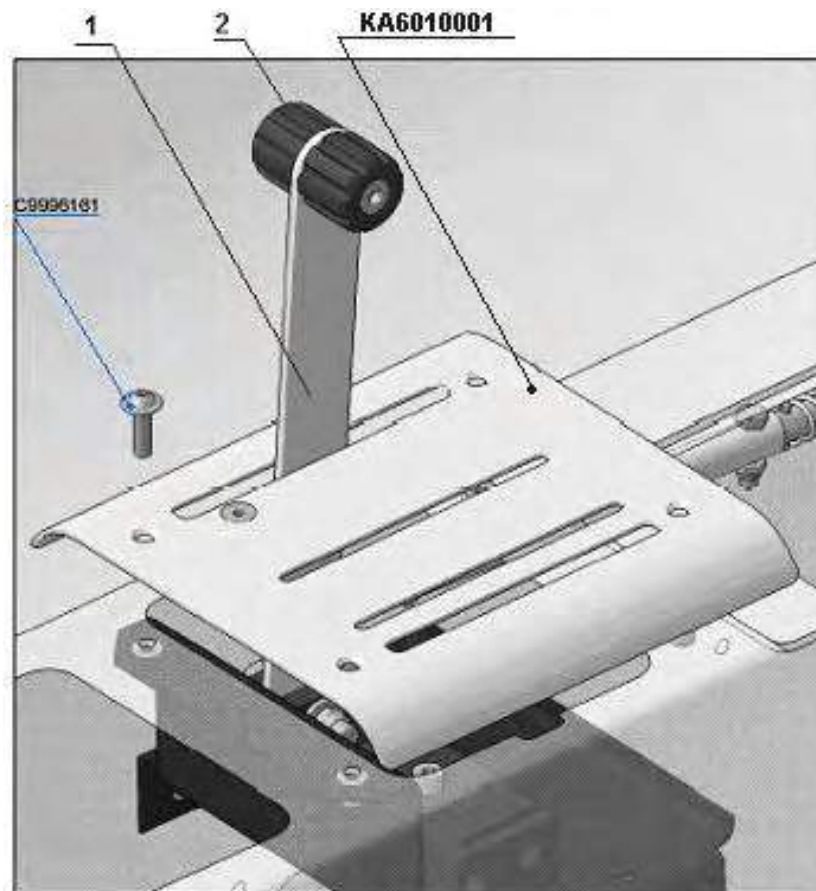
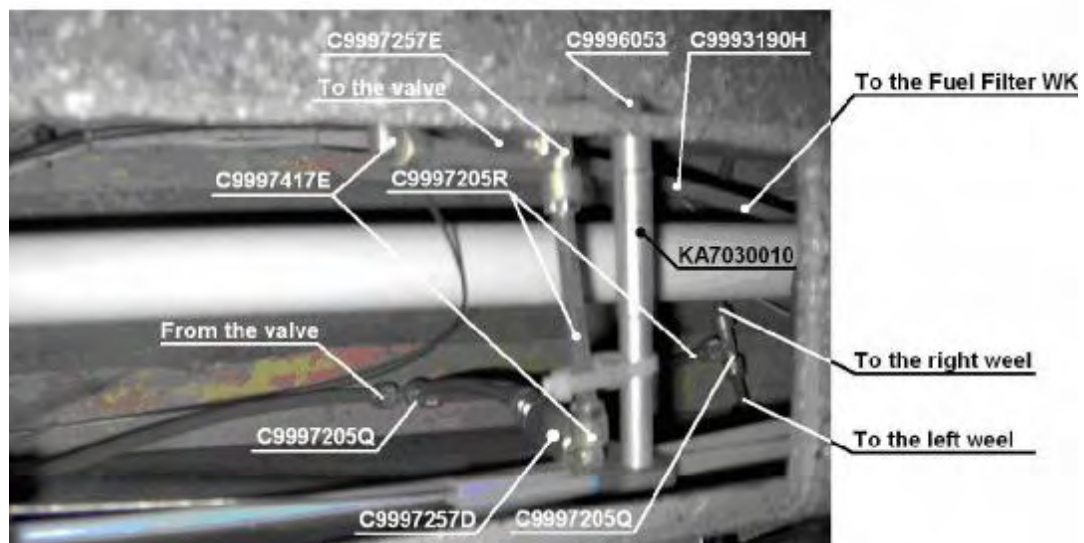

Fig. 2
Fig. 4
Check the brake control handle (item 1, Fig. 2) for play (up to  $1 \frac{3}{16}$ " / 3cm) prior to using brake, before flight.
Remove the access panel KA6010001 (Access Panel) for inspection. For that remove the knobs (item 2, Fig. 2) using a hex-nut wrench 4 from the levers (items 1, Fig. 2) and unscrew the four screws C9996161 (Screw ISO 7380 M5x12).
Check the control lever (items 1, Fig. 2, Fig. 3), brake cylinder KA7030100 (Brake cylinder), and parking brake C9997419A (Fuel valve K-MI-561-1/8-22-II-MSV) (Fig. 2, Fig. 3) for operating.
Brake system controls connections are shown at Fig. 4.
Note that while installing the brake system lines the tee fitting C9997205Q - that distributes fluid between the left and right wheels must be shifted towards the left wall of the tunnel in order to ensure free access to the check valve C9997257D (Check valve L-RV6-11-1/8-MSv), Fig. 4.
Operation of the brake system is based on functioning of KA7030100 (Brake cylinder) (item 3, Fig. 3, Fig. 4), C9997419A (Fuel valve K-MI-561-1/8-22-II-MSV) (Fig. 2, Fig. 3) and C9997257D (Check valve L-RV6-11-1/8-MSv) (Fig. 4). If concerns raised, do the following.
2. For the check valve C9997257D (Check valve L-RV6-11-1/8-MSv), Fig. 4, unscrew hose connectors and install the new valve, carefully tightening the hose connectors.
4. For the brake cylinder KA7030100 (Brake cylinder) (item 3, Fig. 3 and Fig. 4) open the hose connectors, disconnect from brake handle, exchange the brake cylinder, re-connect the brake handle, re-connect hose connectors and tighten them carefully.
3. Fill the lines with brake fluid so that it goes further 4" / 10cm from the tee fitting C9997205Q (Fig.4), that connects the lines from the right and left wheels, towards the brake cylinder KA7030100 Brake cylinder (item 3, Fig. 3 and Fig. 4).